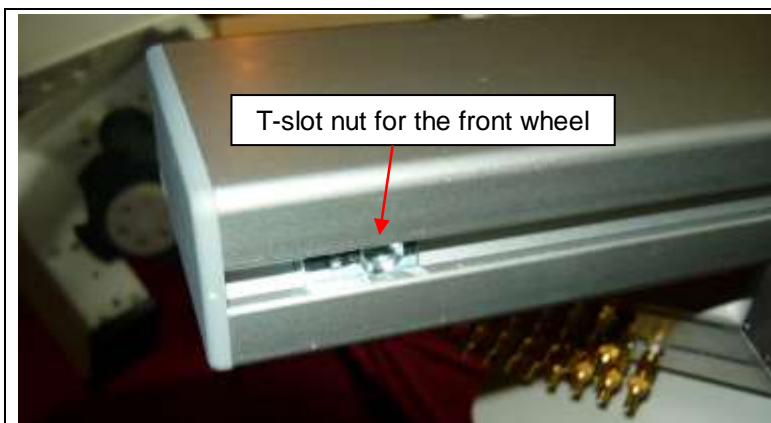
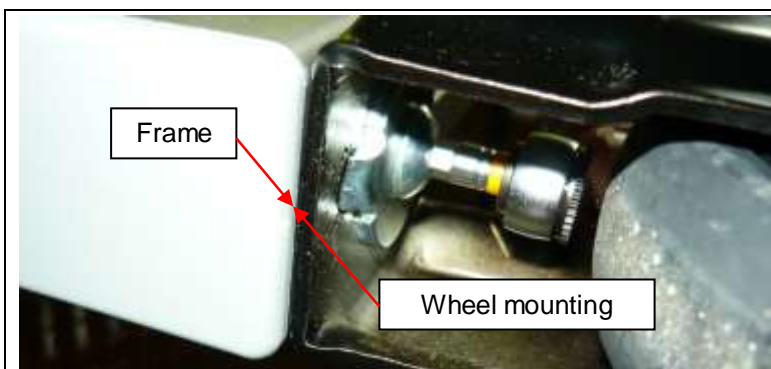

Figure 7: T-slot nut for the front wheel
Figure 8: The mounting of the wheels should be aligned with the front of the frame
- **Screw on the front wheel to the T-slot nut with the wrench (Figure 7 to Figure 8).**